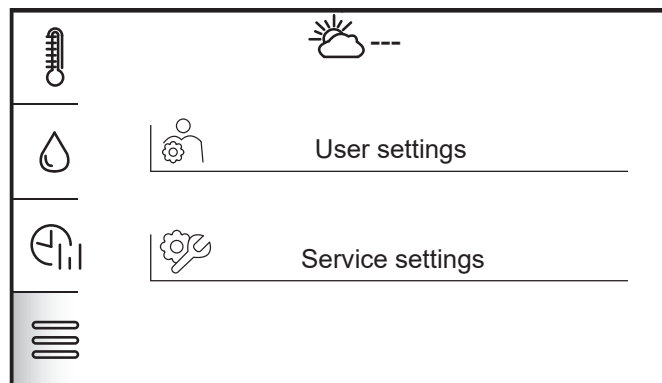

Figure D-1: Settings selection
1. When the heating circuit control interface is shown (see Figure 7-1), tap settings menu. Refer to Table 7-1 and Figure D-1.